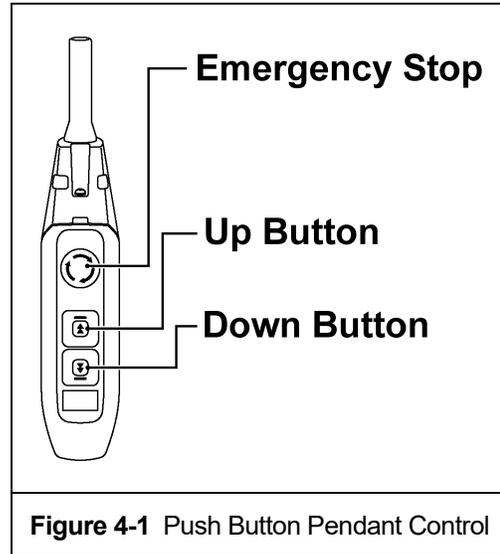

Figure 4-1 Push Button Pendant Control
- 4.3.2 Emergency Stop Button – Press the Emergency Stop Button to perform an emergency stop and lock-out of hoist motion controls or to reset the VFD as shown in Figure 4-1. Turn the Emergency Stop Button clockwise to unlock the controls and allow hoist operation. “Hbb” will appear on the unit's VFD display when the Emergency Stop Button is depressed.
- 4.3.3 Pendant Control – Pendant controls supplied with hoist have two step control buttons. For low speed, depress the button to the first step and for high speed, depress the button fully to the second step. Use the UP button to raise the hoist load chain/hook or the DOWN button to lower the hoist load chain/hook as shown in Figure 4-1. To stop motion release the buttons.